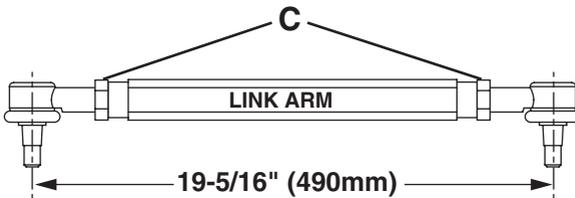
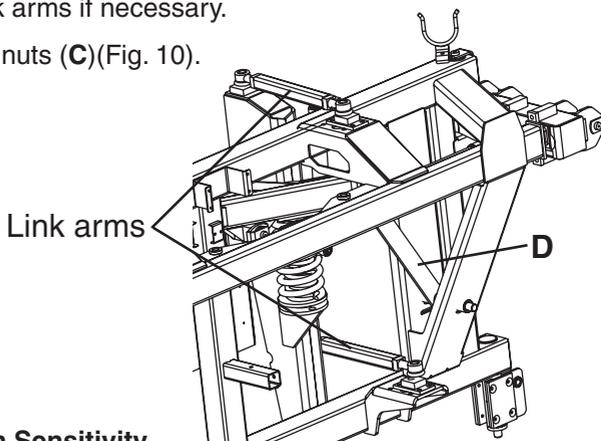

Fig. 10
Fig. 11
2. Loosen the jam nuts (C)(Fig. 10) on both sides of the link arms.
3. Adjust the length of all 4 of the arms (Fig. 10, Fig. 11) to initially measure 19-5/16" (490mm) from center of eyebolt to center of eyebolt.
4. The trapeze arms (**D**)(Fig. 11) must hang freely. Re-adjust the length of the link arms if necessary.
5. Tighten the jam nuts (**C**)(Fig. 10).